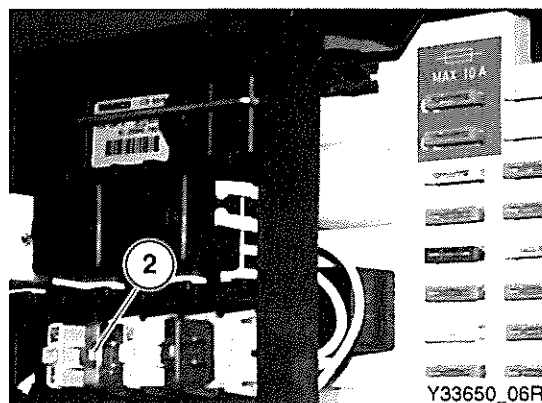

Fig 12 Circuit breaker reset button
34 Refer to Fig 12. To reset an automatic circuit breaker, press the reset button (2) on the top of the circuit breaker.